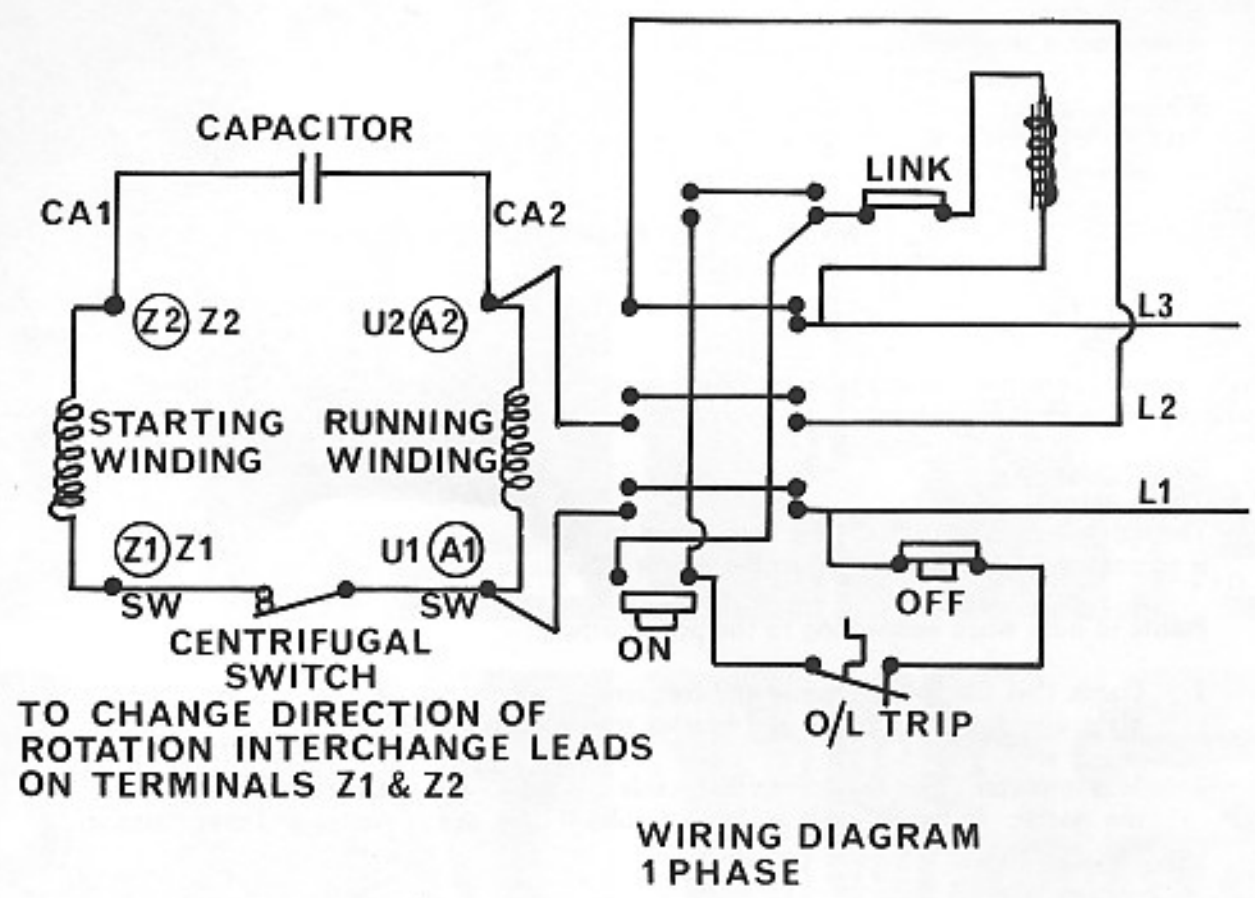
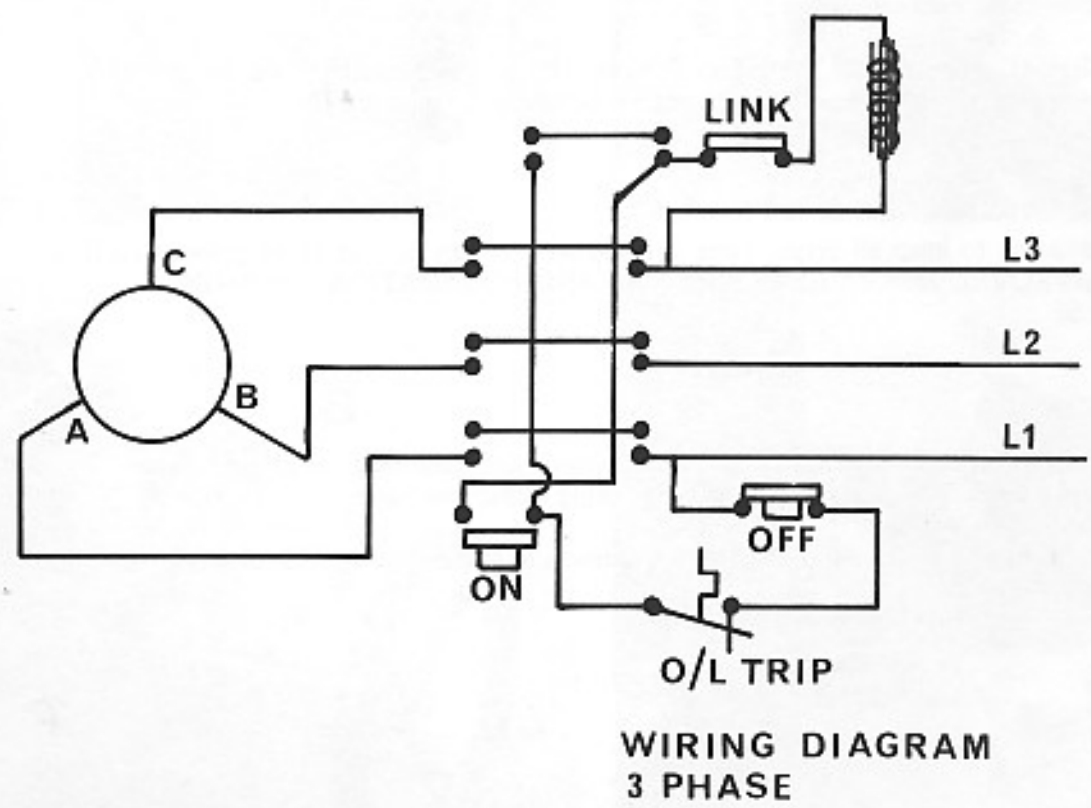

FIG. 2
FIG. 3
- 4 Correct the line leads to the appropriate terminals. See page 7 for wiring diagrams (1 Phase supply Fig. 2 or 3 Phase supply Fig. 3).